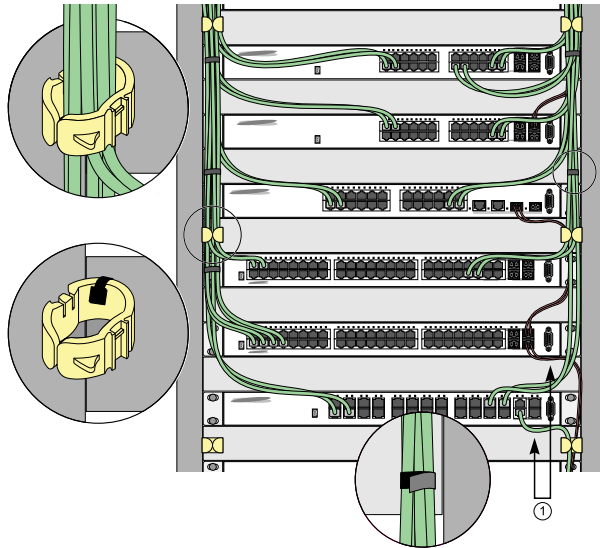

Figure 31: Properly Installed and Bundled Cable
- Provide enough slack, approximately 5 to 7.5 cm (2 to 3 in), to provide proper strain relief as shown in Figure 31 on page 51.
- When installing a patch panel using twisted pair wiring, untwist no more than 2.5 cm (1 in) of the cable to avoid radio frequency (RF) interference.